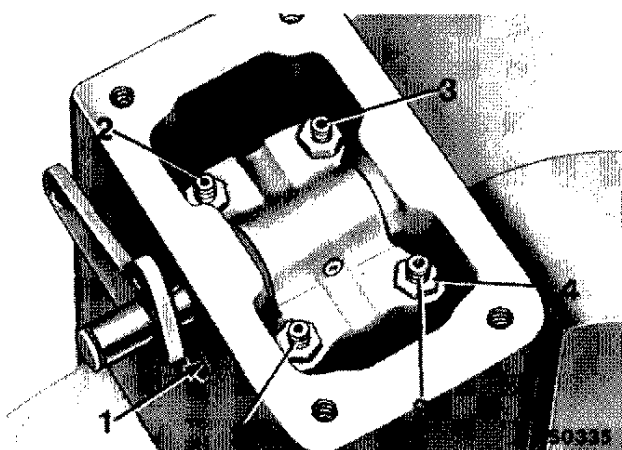

Fig. 10 — Adjusting Cam Plate Set Screws
5. Level the rocker in relation to the top housing edge (see fig. 10). Gradually screw in detent piston set screw until detent piston follower just touches the rocker. Move the rocker slightly until the follower is felt going in the neutral notch. Finger tighten the screw to hold the rocker in neutral.
NOTE: The valve nearest to the "TOP" mark cast on the valve housing is a pressure valve, the other pressure valve being diagonally across from it (see fig. 10).
9. Tighten special screw securing cam plate to rocker (see 1, fig. 10) and press cam against both set screws.
CAUTION: The pressure valves and return valves are arranged "crosswise" (see fig. 10).